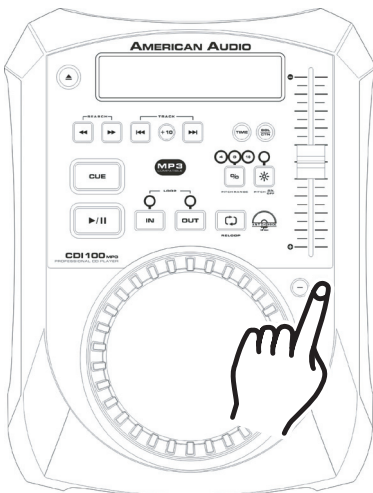

Figure 25
The (+) PITCH BEND BUTTON (8) will increase track playback speed and the (-) PITCH BEND BUTTON (8) will decrease track playback speed. The extent to which the speed changes is proportionate to the amount of time the button is pressed. For example, if the (+) PITCH BEND BUTTON (8) is held down continuously as in figure 25, the disc speed will increase and will continue to increase until it reaches a maximum of 16% speed gain. When you release the (+) PITCH BEND BUTTON (8) the disc speed will automatically return to its previous set speed.